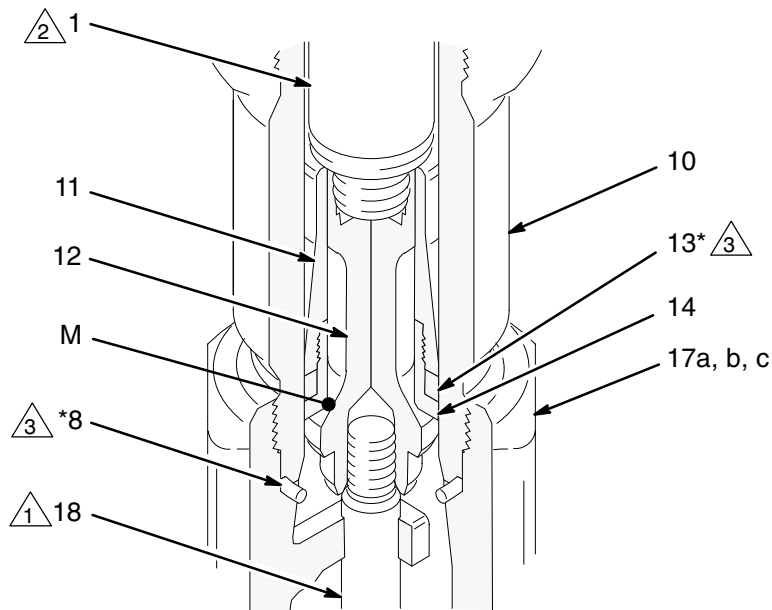

Fig. 12
9. Remove the seal (8) from the bottom of the cylinder (10). See Fig. 12. Shine a light into the cylinder to examine the inside surface for scoring or damage. **Only if the cylinder is damaged, or there is evidence of leaking around the top cylinder seal (8),** unscrew the cylinder from the outlet housing, using a pipe wrench. Remove the top cylinder seal.
10. Place the flats of the displacement rod (1) in a vise. Unscrew the piston (12) from the displacement rod; the priming piston rod (18) will come with it. Slide the piston guide (11) and seat (14) off the piston (12).
11. It is not necessary to remove the priming piston rod (18) from the piston (12) unless your inspection reveals damage to either part. To disassemble, place the piston flats in a vise and unscrew the rod.
12. Place the piston guide (11) in a vise, as shown in Fig. 11. Using an adjustable wrench, unscrew the piston seat (14) from the guide. Remove the seal (13); always replace it with a new one. Inspect the mating surfaces (M) of the piston (12) and piston seat (14) for damage or wear. See Fig. 12.